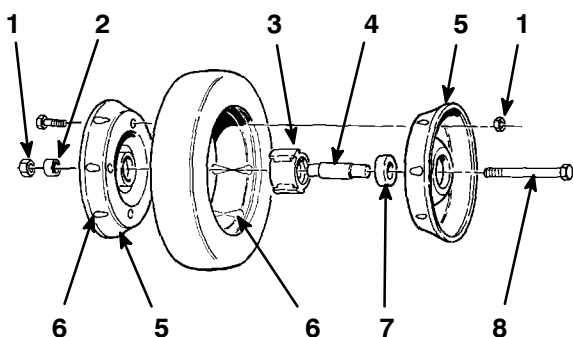

Figure 22
3. Remove the cap screw, the wheel spacer, and the locknut mounting the wheel to the pivot arm (Fig. 22).
4. Separate the wheel halves from the tire by removing four cap screws and four locknuts (Fig. 22).
Note: If you remove the bearings from the bearing/hub assembly, remove them by pressing on the bearing spacer (Fig. 22).
1. Position the tire onto one wheel half, aligning the lugs on each (Fig. 22).
2. Place the bearing/hub assembly into the center hole of the wheel half. Ensure that the legs of the hub are positioned over the flange of the hole (Fig. 22).
3. Place the other wheel half onto the bearing/hub assembly, aligning the wheel and the tire lugs and the mounting holes (Fig. 22).
4. Using two 1/4-20 x 1.50 in. (6 x 38 mm) fully threaded screws or bolts and non-locking nuts, loosely secure the wheel halves together. Mount the screws or bolts in the opposing holes (Fig. 22).
5. Check the alignment of all parts and tighten the screws, alternating from side to side for a uniform fit, until the wheel halves are drawn together (Fig. 22).
6. Install the two cap screws and two locknuts previously removed in the remaining holes in the wheel halves and tighten. Remove the two long screws or bolts and replace them with two cap screws and two locknuts (Fig. 22).
7. Install the wheel to the pivot arm with the cap screws, a spacer, and a locknut. Ensure that the spacer is positioned between the wheel hub and the pivot arm (Fig. 22).